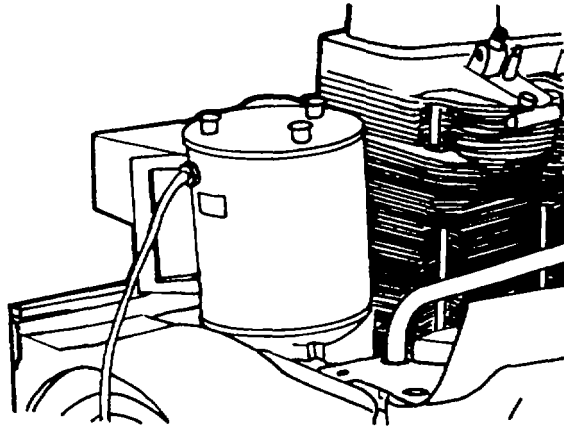

Figure 4-23. Piston Heater
- a. Heat piston to about 176OF (80°C) using piston heater No. 003-0414 (figure 4-23). Remove circlip and withdraw the piston pin.